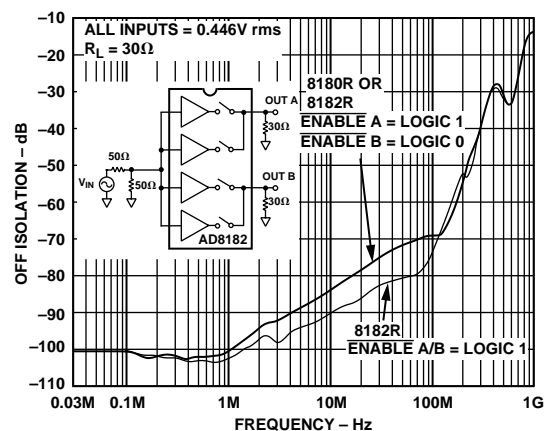

Figure 14. "OFF" Isolation vs. Frequency
- 7Mux is disabled (i.e., ENABLE = Logic 1) and all inputs are driven simultaneously with  $V_{IN} = 0.446$  V rms. Output is monitored at  $f = 5$  and 30 MHz.  $R_L = 30$   $\Omega$  to simulate  $R_{ON}$  of one enabled mux within a system (see Figure 14). In this mode the output impedance is very high (typ 10 M $\Omega$ ), and the signal couples across the package; the load impedance determines the crosstalk.